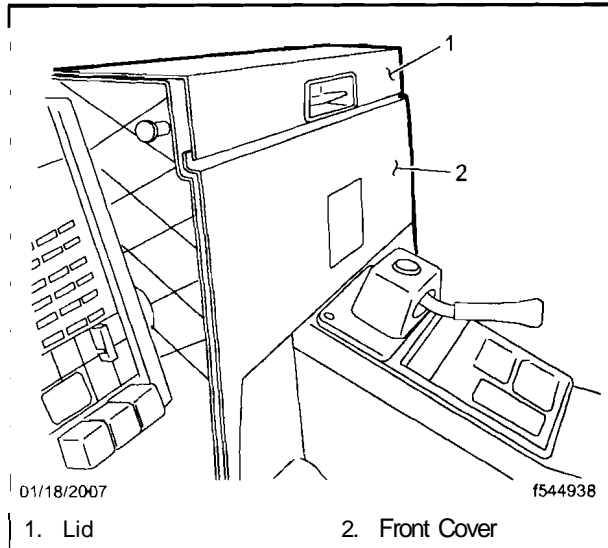

Fig. 15, Center Storage Compartment
13. Using a T20 Torx-head driver, remove the center storage compartment lid, front cover, and floor. See Fig. 15.